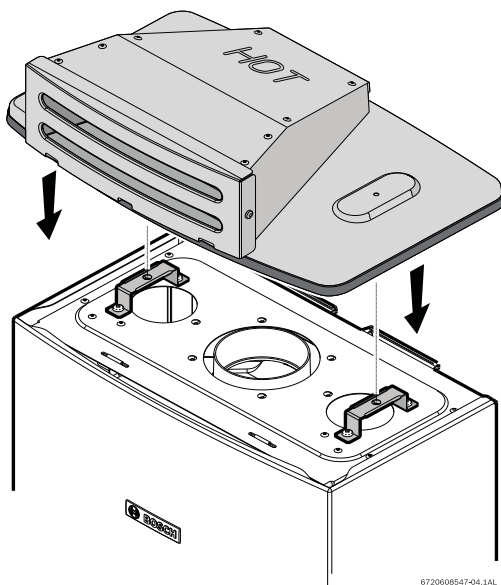

Fig. 7
- Position the outdoor vent cap on the top of the appliance, as shown in Fig. 7.